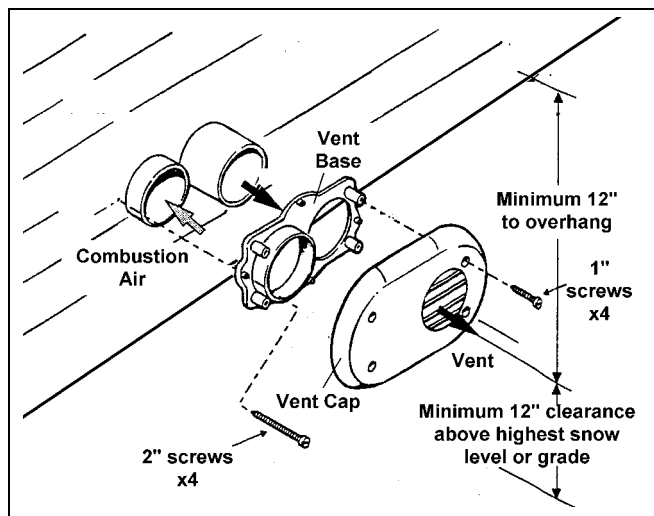

FIGURE 2
- Assemble the vent terminal cap to the vent terminal base, using the four short screws provided (#8 pan head, 1" long, SMS Type A 18-8 stainless steel). See Figure 2.